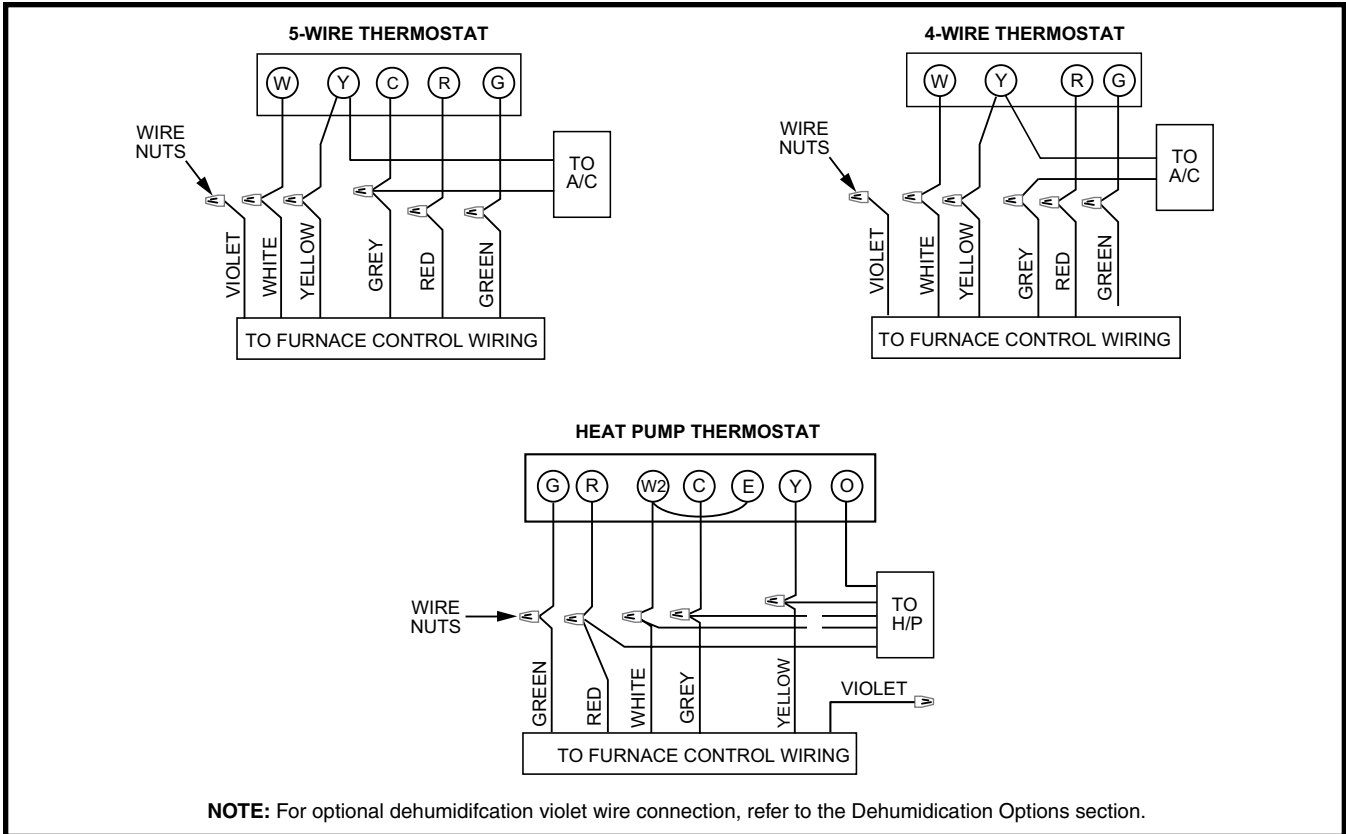

Figure 20. E7EB Thermostat Connection
- The thermostat should be mounted about 5 feet above the floor on an inside wall. DO NOT install the thermostat on an outside wall or any other location where its operation may be adversely affected by radiant heat from fireplaces, sunlight, or lighting fixtures, and convective heat from warm air registers or electrical appliances. Refer to the thermostat manufacturer's instruction sheet for detailed mounting information. See Figure 20 \(page 16\) for typical thermostat connections.
NOTE: Installation of at least a four-wire thermostat circuit is required with five-wire circuit recommended for future addition of a heat/cool thermostat. Any unused thermostat leads must be properly capped. See Figure 20 \(page 16\) for various thermostat connections.